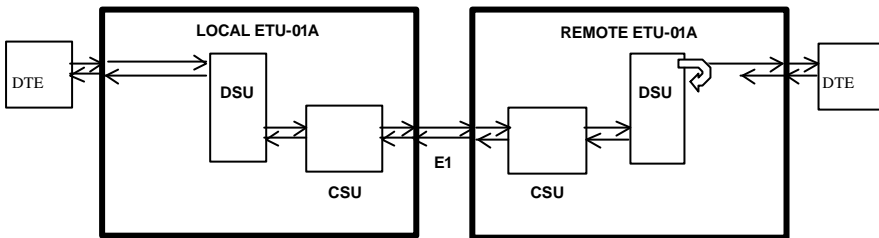

Figure 5-8. Data Port V.54 remote loop back
The Data Port V.54 remote loop back is performed by sending standard V.54 loop back codes to the remote unit. The remote unit then connects its local data channel receive data (RD) to the channel transmit input (TD). This loop back test checks the performance of the local **ETU-01A**, the remote **ETU-01A** and the connections between them, as shown in Figure 5-8.